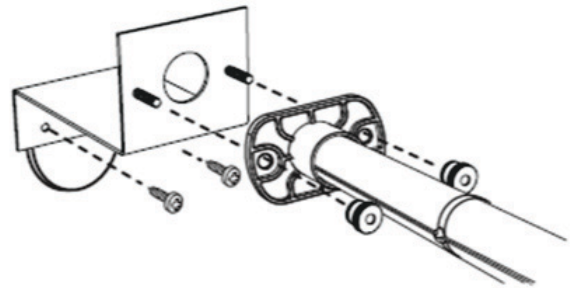

**Fig. 7 – WAGO Terminals**
1. Light stick connection will receive power from WAGO connection located on the UVCAP unit (Fig. 7).